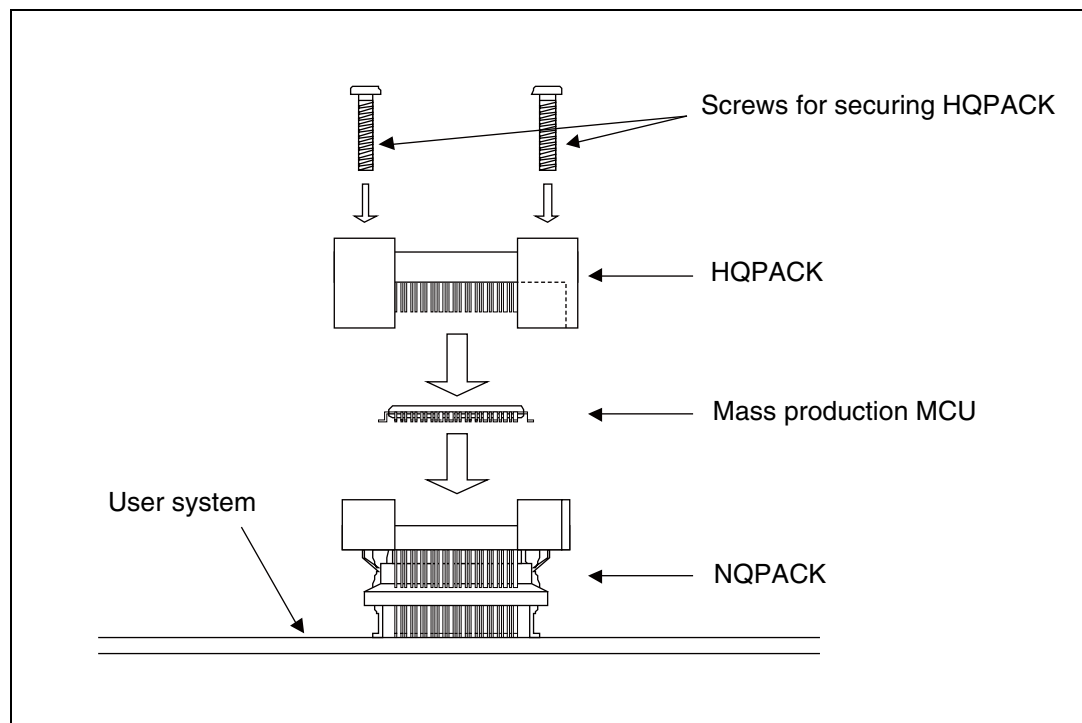

Figure 5 Mounting a mass production MCU
2. Confirming beforehand that the mass production MCU is correctly mounted on the NQPACK, match the index mark (a linear angle cut made only on one corner) of HQPACK with the index mark of NQPACK, and insert it (see “Figure 5”).